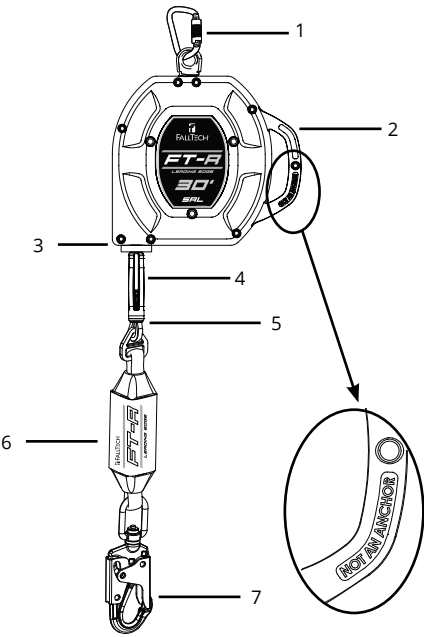

Figure 1 - About FallTech® FT-R Leading Edge SRL
As shown in Figure 1 below, the SRD has a glass reinforced nylon housing with an integrated handle that contains a lifeline composed of 7/32" (5.6mm) diameter galvanized steel wire rope, wound onto a spring tensioned drum. The SRD's lifeline is equipped with a cable stop/handle assembly with a bumper, integrated tearaway Energy Absorber (EA), and a steel swivel snaphook. When the user is attached, the lifeline extends and retracts with user movement, automatically maintaining a taut lifeline. If a fall occurs, a centrifugal pawl system engages, stopping the lifeline payout. The tearaway EA deploys, gradually slowing and arresting the fall.